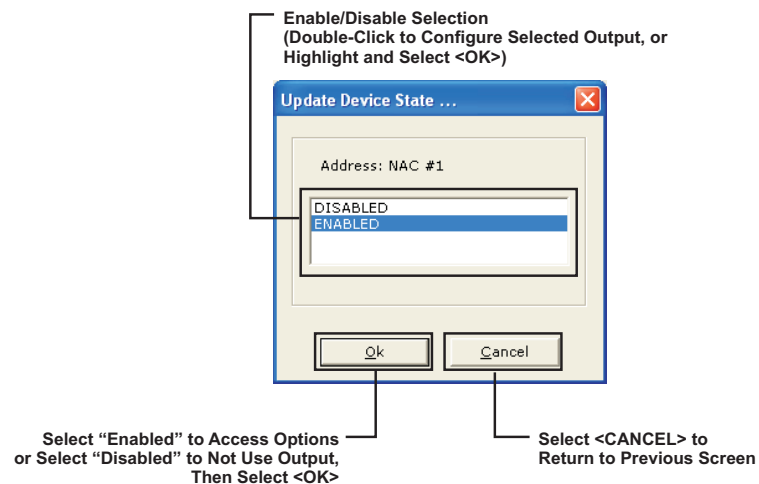

Figure 2-31. Access Options Screen for Control Unit-Based Outputs
2. Select the circuit by double-clicking on the circuit name in the type column. Figure 2-31 displays.